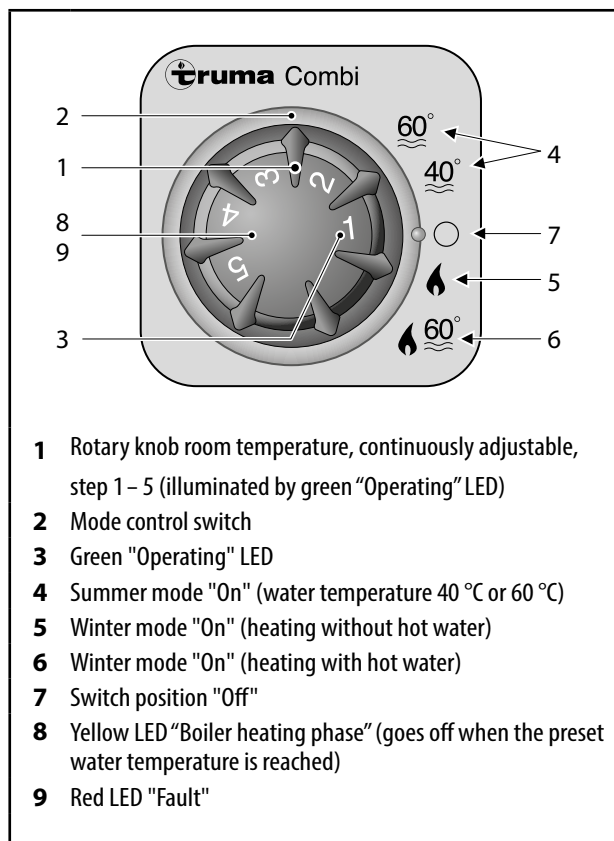

Fig. 78 Truma Combi control element
1. Set the rotary switch (Fig. 78, item 2) to position (Fig. 78, item 6).
2. Turn the rotary knob (Fig. 78, item 1) to the desired thermostat setting 1 — 5 for the room temperature. Green indicator lamp "Operating" (Fig. 78, item 3) goes on and shows the room temperature selected. After attaining the room temperature selected, the burner switches to the lowest setting and the heats the water in the boiler to 60 °C.
Yellow indicator lamp "Boiler warm-up phase" (Fig. 78, item 8) shows the heating phase and goes off when the water temperature has been attained.
1. Set the rotary switch (Fig. 78, item 2) to position (Fig. 78, item 5).
2. Turn the rotary knob (Fig. 78, item 1) to the desired thermostat setting 1 — 5 for the room temperature. Green indicator lamp "Operating" (Fig. 78, item 3) goes on and shows the room temperature selected. After attaining the room temperature selected, the heating switches off. When the boiler is filled, the water is heated automatically as well.
In this mode, the yellow indicator lamp "Boiler warm-up phase" (Fig. 78, item 8) is only on for water temperatures below 5 °C.
2. Turn the rotary knob (Fig. 78, item 1) to the desired thermostat setting 1 — 5 for the room temperature. Green indicator lamp "Operating" (Fig. 78, item 3) goes on and shows the room temperature selected. After attaining the room temperature selected, the heating switches off.
1. Set the rotary switch (Fig. 78, item. 2) to position (Fig. 78, item 7)○.